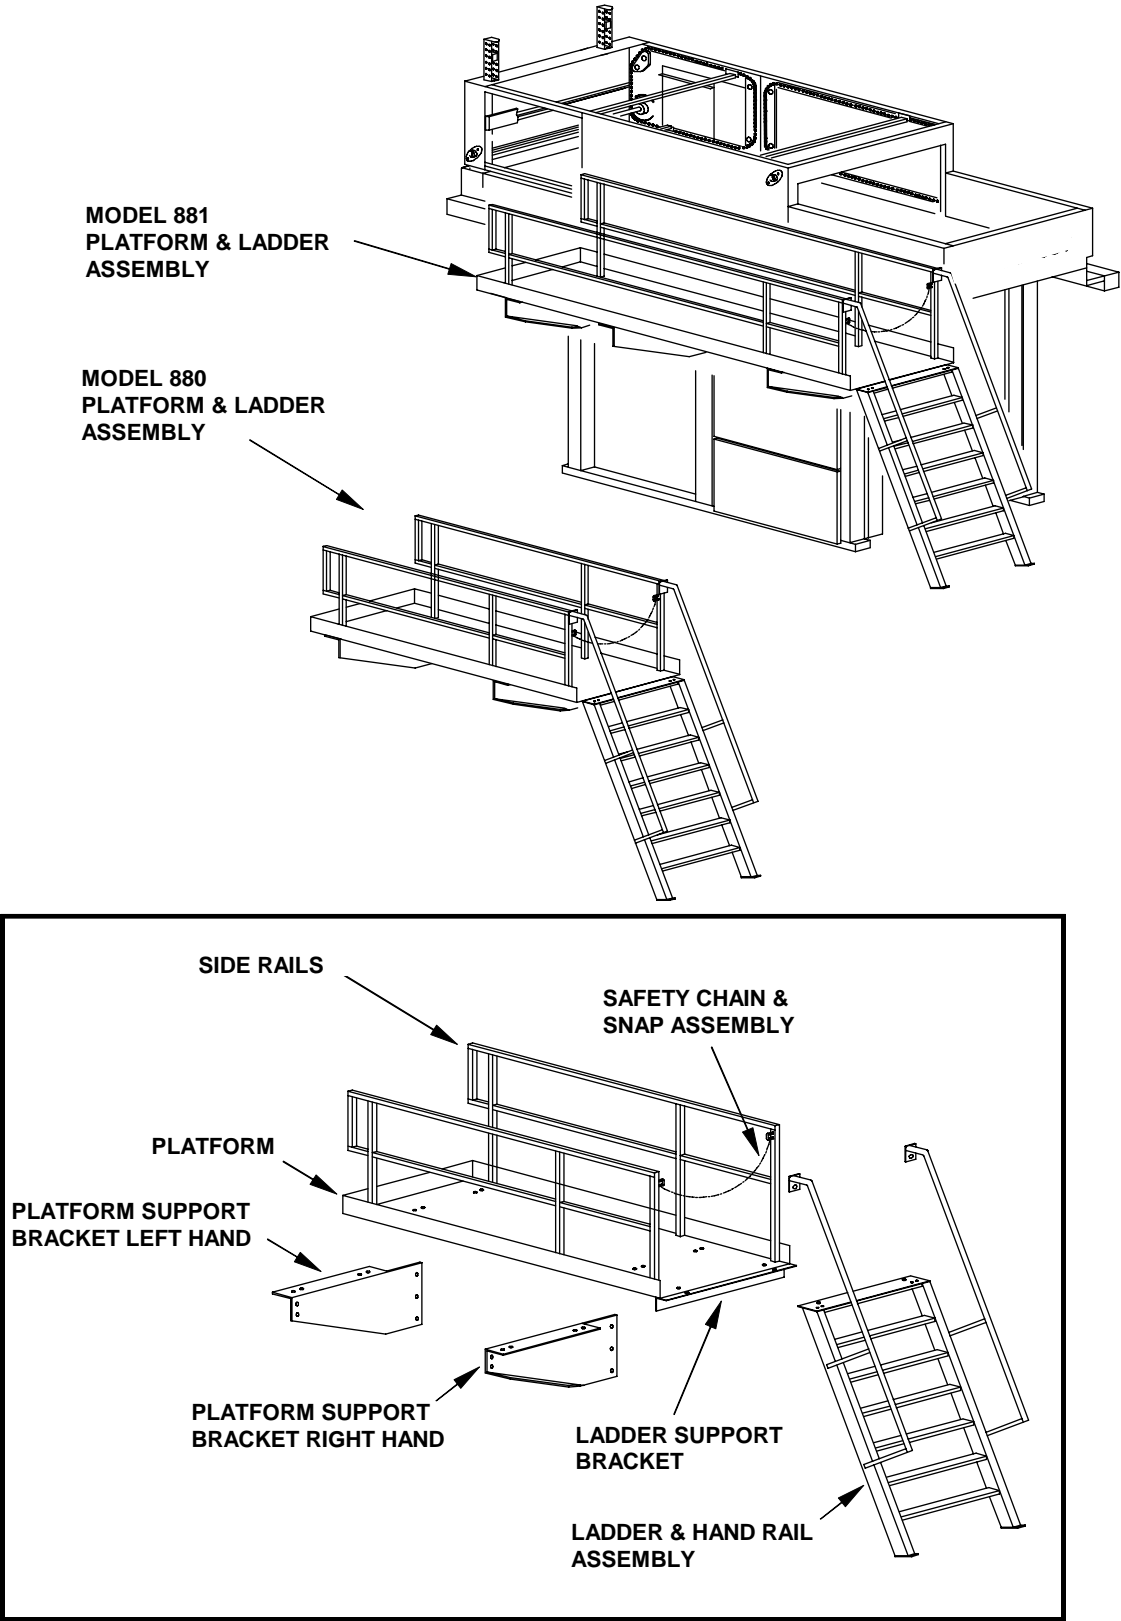

Figure 6-29: Platform & Ladder Assembly (Optional)
- B. Mount the left and right hand Platform Support Brackets to the machine frame. (See Figure 6-29) Mount each bracket with 1/2" x 1-1/4" hex head cap screws, washers, and nuts provided.